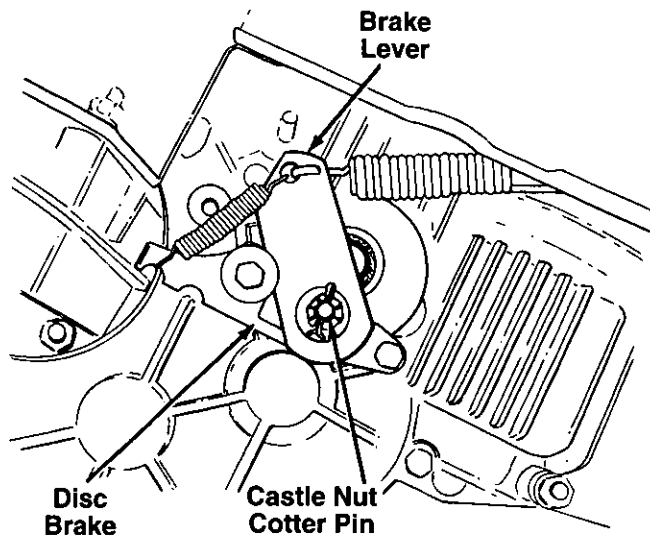

FIGURE 19.
## BRAKE ADJUSTMENT (See figure 19)
**NOTE:** Figure 19 is shown with the unit tipped up on rear wheels for clarity only.